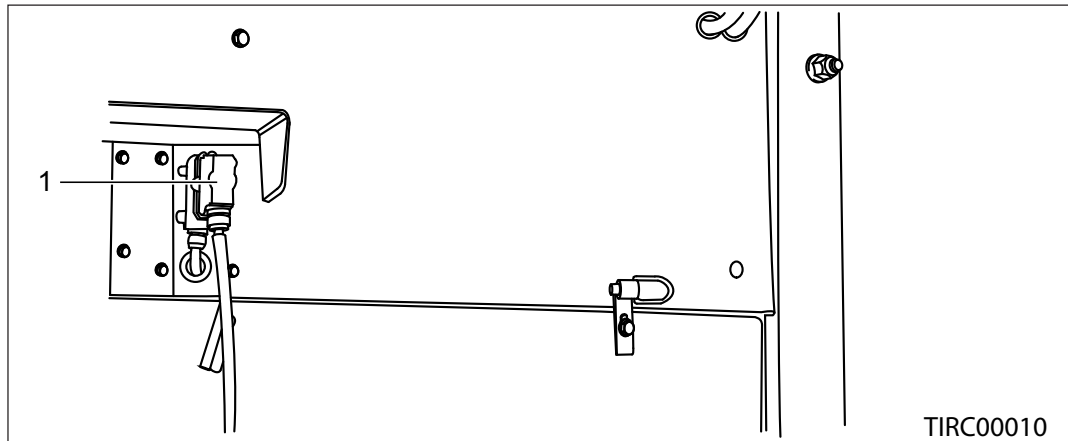

Figure 7.37 - Remote Control Unit Connection
2. Remove the dummy plug (item 1) and insert the remote control unit plug into it's socket at the rear of the machine, Reference: Figure 7.37.